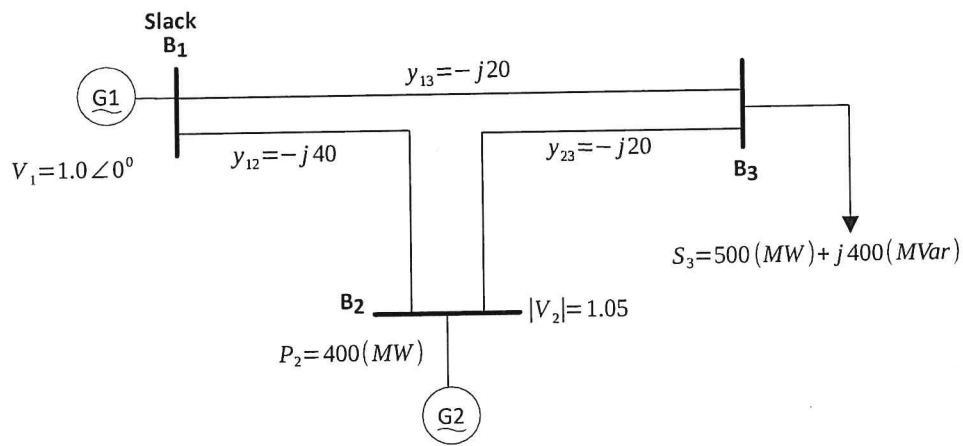

Figure 2: Three bus system
- (d) Figure 2 shows the one-line diagram of a simple three-bus power system with generation at buses 1 and 2. The voltage at bus 1 is $V = 1.0\angle 0^\circ$ per unit. Voltage magnitude at bus 2 is fixed at 1.05 pu. Line admittances are marked in per unit on a 100 MVA base. Line resistances and line charging susceptances are neglected.